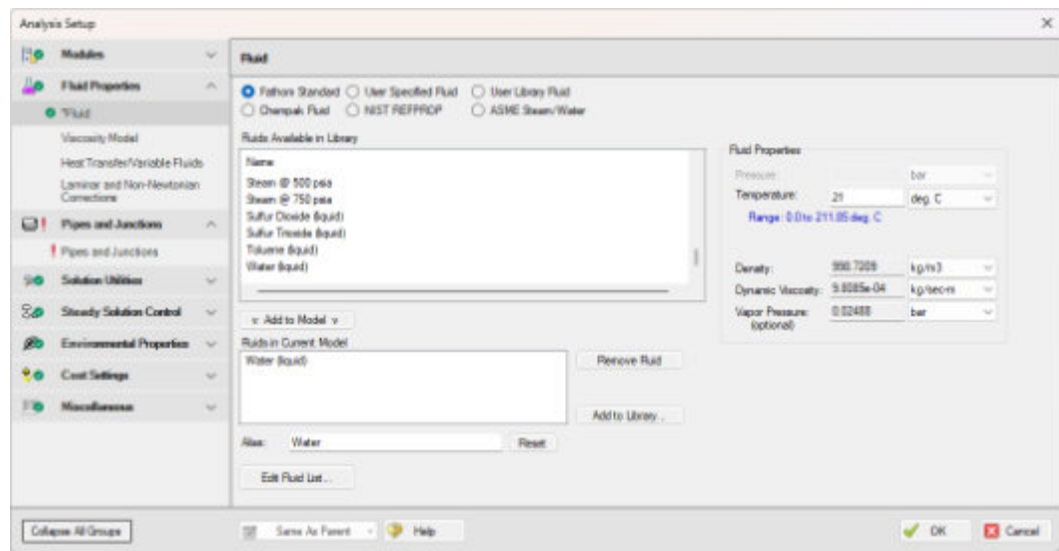

Figure 2.12 The fully defined Fluid panel
- **Select Fathom Standard to see the available fluids** (see Figure 2.12). Select Water (liquid) in the library list, then click the Add to Model button below the list. On the right, enter a temperature of 21 deg. C. This satisfies the required inputs for the Fluid panel and Fluid Properties group.